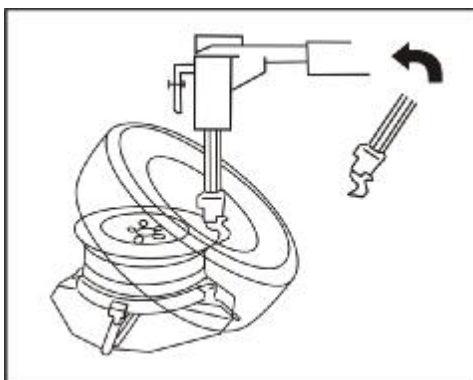

Fig.13
- I Place the tyre onto the rim at an angle to the turntable, front side higher(fig.13), depress down pedal “  ” to restore the post (fig.13), adjust the mount/demount head to right position, finally, press locking button.